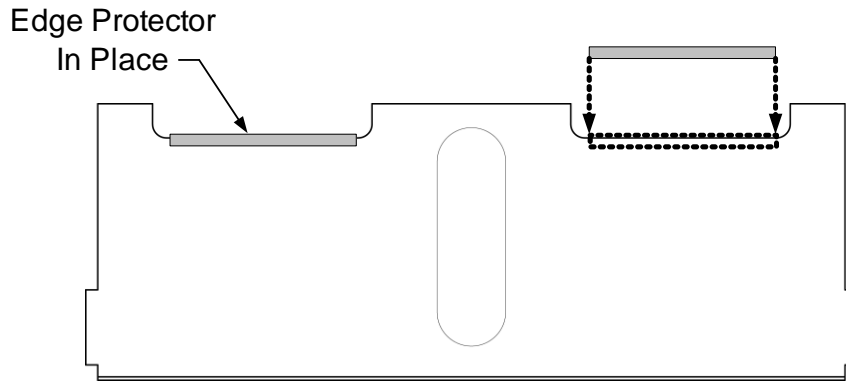

Figure J-5. Edge Protectors on Battery Tray
2. Slide a plastic edge protector (two supplied in the hardware kit, P/N 76-800000-009) over the front edge of each wire channel opening, as shown in Figure J-5.